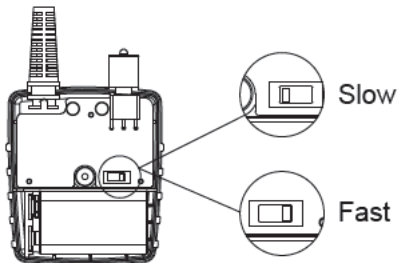

Figure 3
- b. A fast dual alternating tone, or a slow dual alternating tone can be selected from the switch inside the tone generator. (See figure 3)